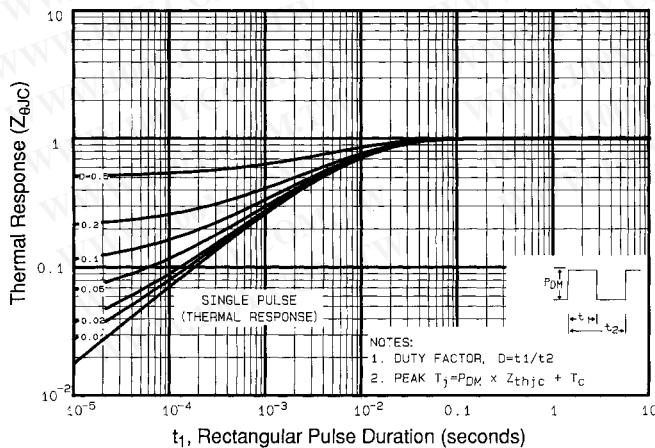

Fig 11. Maximum Effective Transient Thermal Impedance, Junction-to-Case
① Repetitive rating; pulse width limited by max. junction temperature (See Figure 11)
③ $I_{\text{SD}} \leq 3.1\text{A}$, $di/dt \leq 80\text{A}/\mu\text{s}$, $V_{\text{DD}} \leq 600\text{V}$, $T_J \leq 150^\circ\text{C}$ ② $V_{\text{DD}}=50\text{V}$, starting $T_J=25^\circ\text{C}$, $L=35\text{mH}$